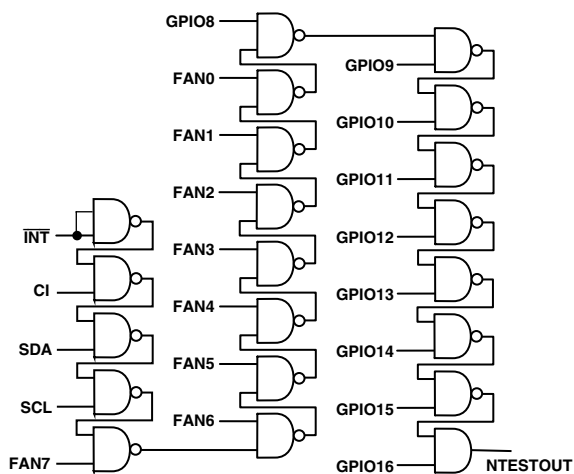

Figure 25. NAND Tree
A NAND tree is provided in the ADM1026 for Automated Test Equipment (ATE) board level connectivity testing. This allows the functionality of all digital inputs to be tested in a simple manner and any pins that are nonfunctional or shorted together to be identified. The structure of the NAND tree is shown in Figure 25. The device is placed into NAND Tree Test Mode by powering up with Pin 25 held high. This pin is sampled automatically after power-up, and if it is connected high, then the NAND test mode is invoked.
2. If any of the inputs shown in Figure 25 are unused, they should not be connected direct to ground, but via a resistor such as 10 k Ω . This will allow the ATE (Automatic Test Equipment) to drive every input high so that the NAND tree test can be properly carried out.